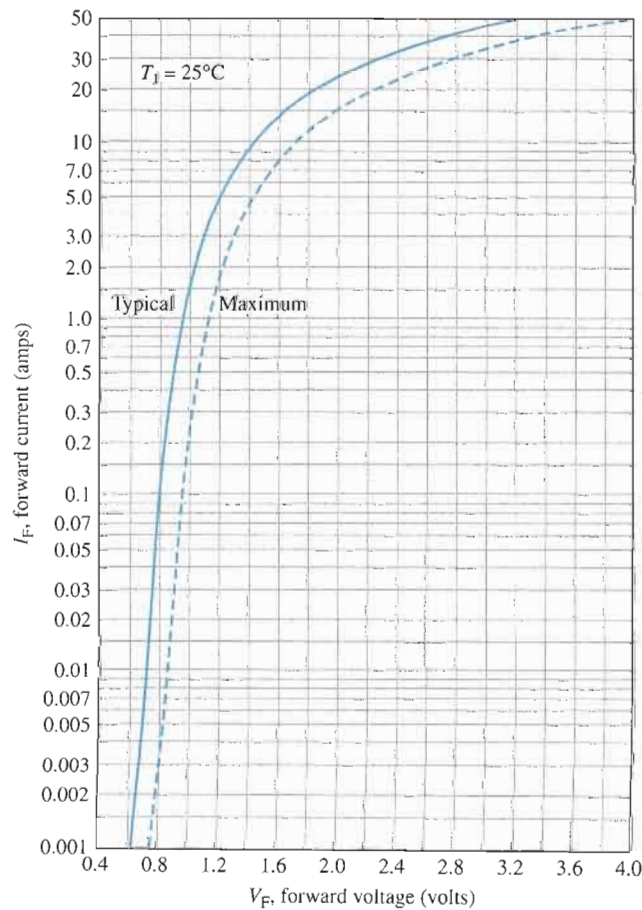

FIGURE 2-54
- v_F The instantaneous voltage across the forward-biased diode when the forward current is 1 A at 25°C . Figure 2-54 shows how the forward voltages vary with forward current.